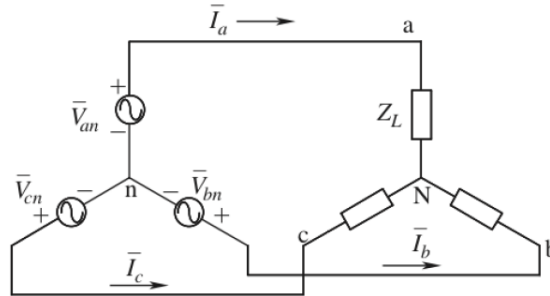

Figure 2: Balanced wye connected, three-phase circuit.
5. In the three-phase circuit of Figure 2, $|Z_L| = 10 \Omega$, and the per-phase power factor is 0.8 (lagging). Calculate the per-unit values of the per-phase voltage, the load impedance, the load current, and the load real and reactive powers,